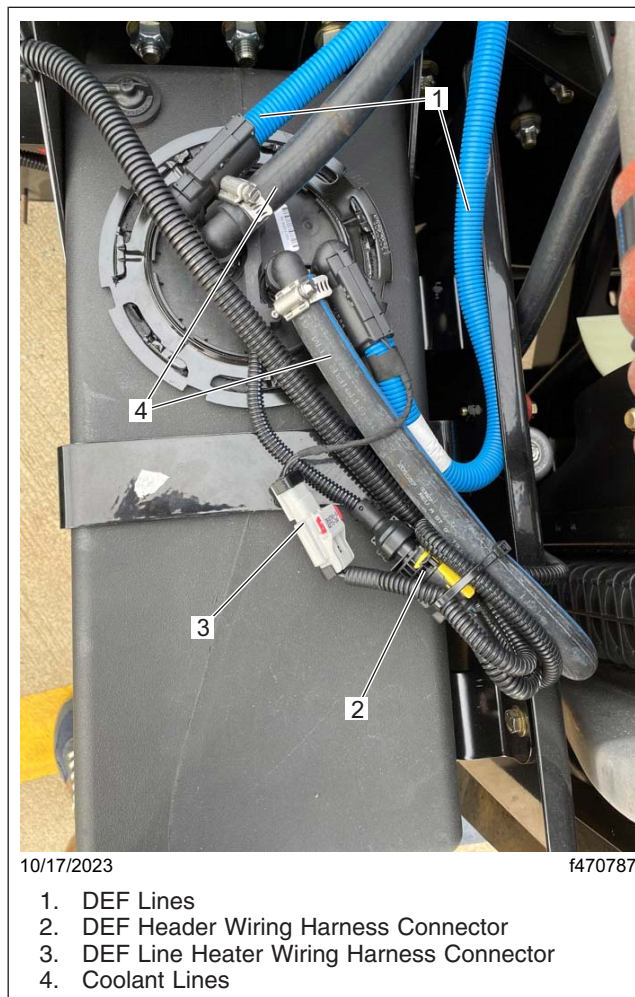

Fig. 4, Removal of DEF Tank Connections
11. Remove the DEF line heater wiring harnesses from the DEF lines at the tank. See Fig. 4.
12. Remove the DEF lines from the supply and return ports. See Fig. 4.
13. Remove the wiring harness connector from the DEF tank header unit. See Fig. 4.